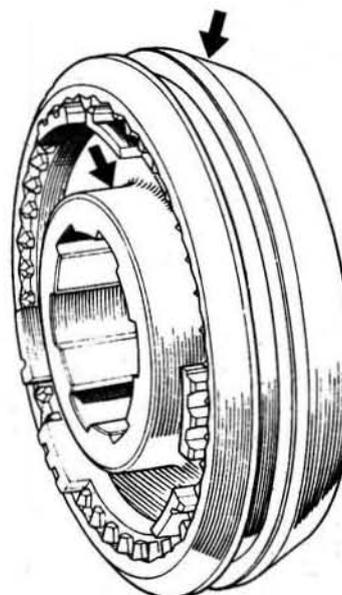
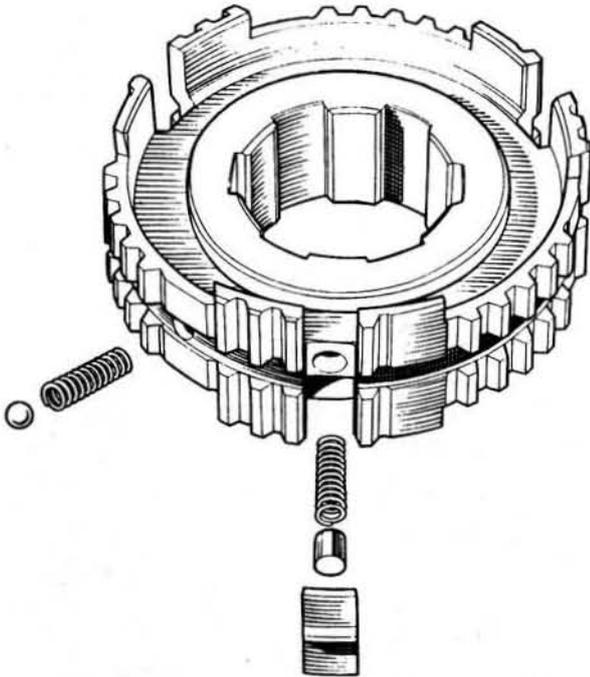

Fig.6.20. Assembly of the synchro hub and operating sleeve
Fig.6.21. Showing the relative positions of the detent ball, plunger and thrust member
- 2 Assemble the synchro hub to the operating sleeve so that the wide boss of the hub is on the opposite side to the wide chamfer end of the sleeve as depicted in Fig.6.20, and so that the three balls and springs will be in line with the teeth having three detent grooves (Figs.6.21 and 6.22).